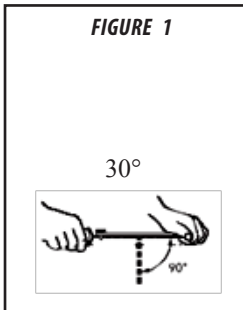

FIGURE 1
- Place your file on the cutter link and push the file straight forward. Keep the file in position as illustrated in Figure 1